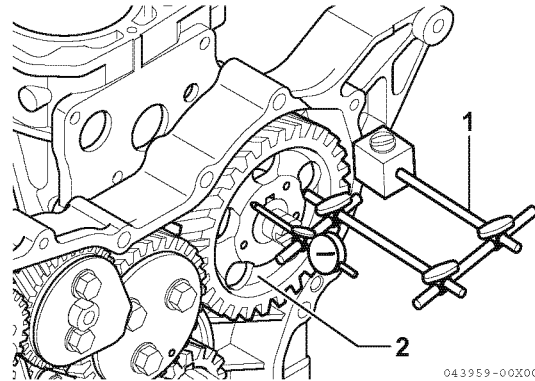

Figure 6-48
- **Method A:** Install a dial indicator (**Figure 6-48, (1)**) on the cylinder block. Move the camshaft (**Figure 6-48, (2)**) back and forth to measure the end play. Record the measurement. See *Camshaft* on page 6-7 for the service limit.